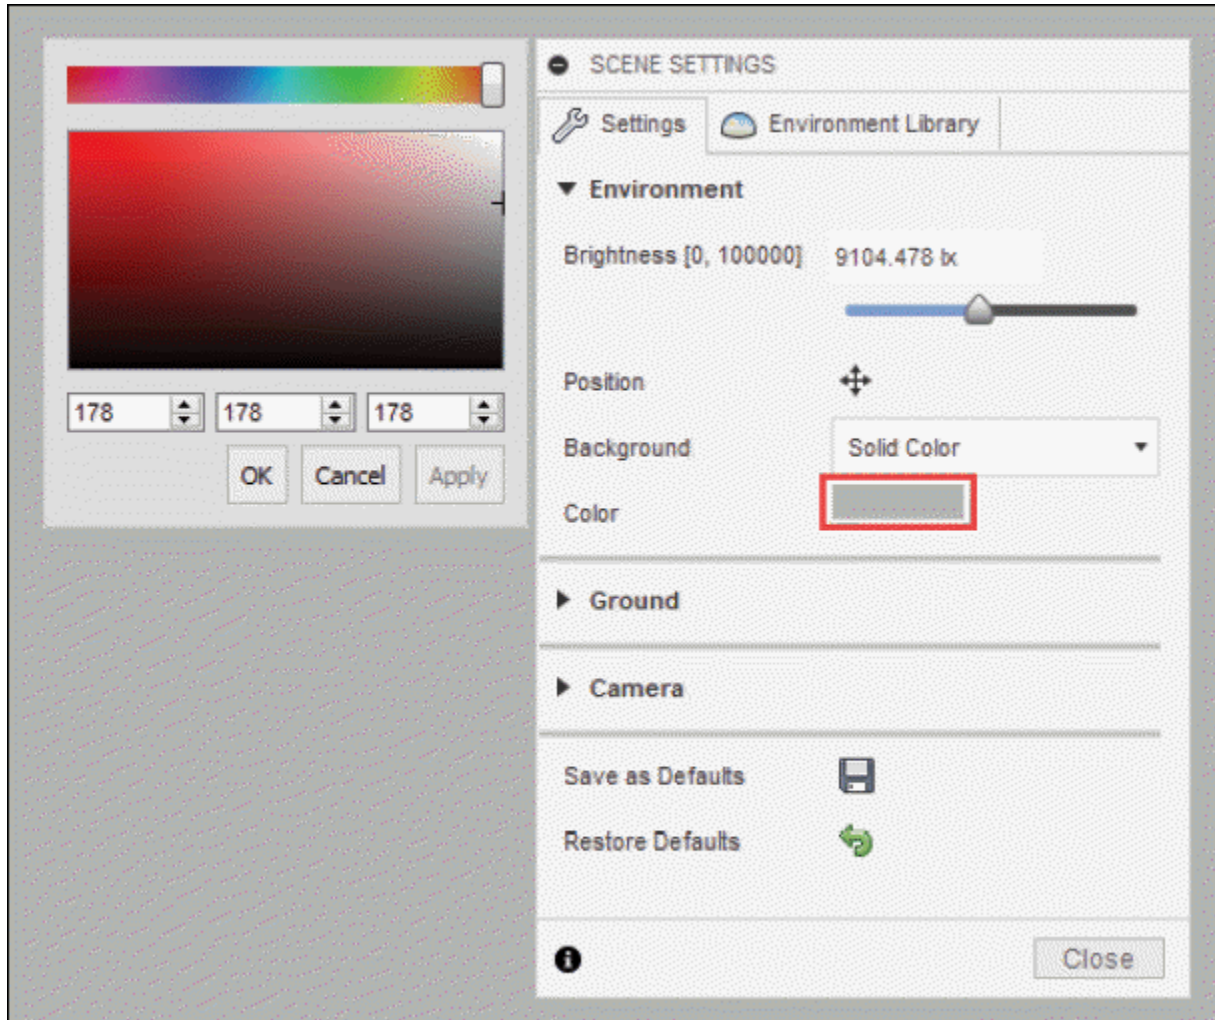

Figure-4. Color box
- To select a solid color, click on the **Color** button. A color box will be displayed; refer to Figure-4.